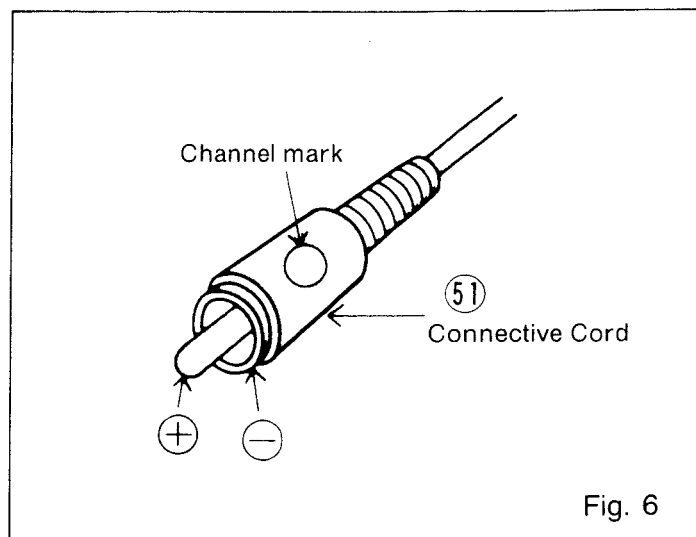

Fig. 6
No : Perform continuity test between Tonearm (43) end and Connective Cord (51) on dead channel (Fig. 6).